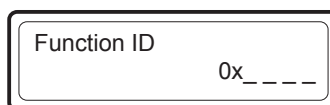

Figure 5.1—Function ID display
3. Note the Function ID, which will appear as a six-character hexadecimal beginning with "0x," as shown in Figure 5.1.